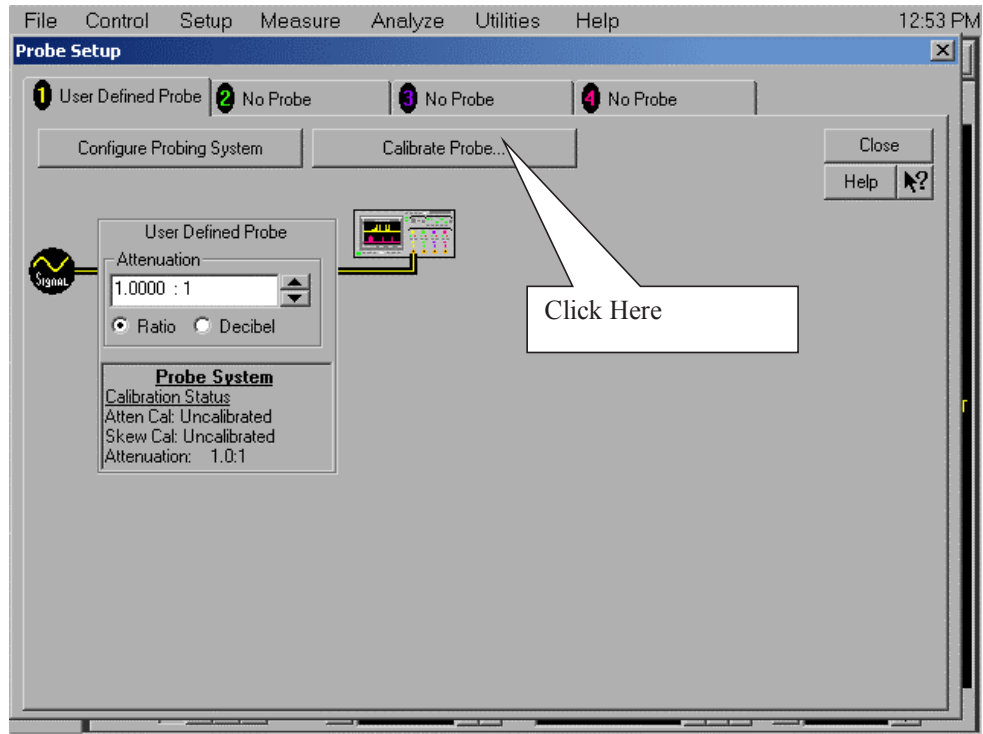

Figure 113 User Defined Probe Window.
- 4 Referring to Figure 113 below, perform the following steps: